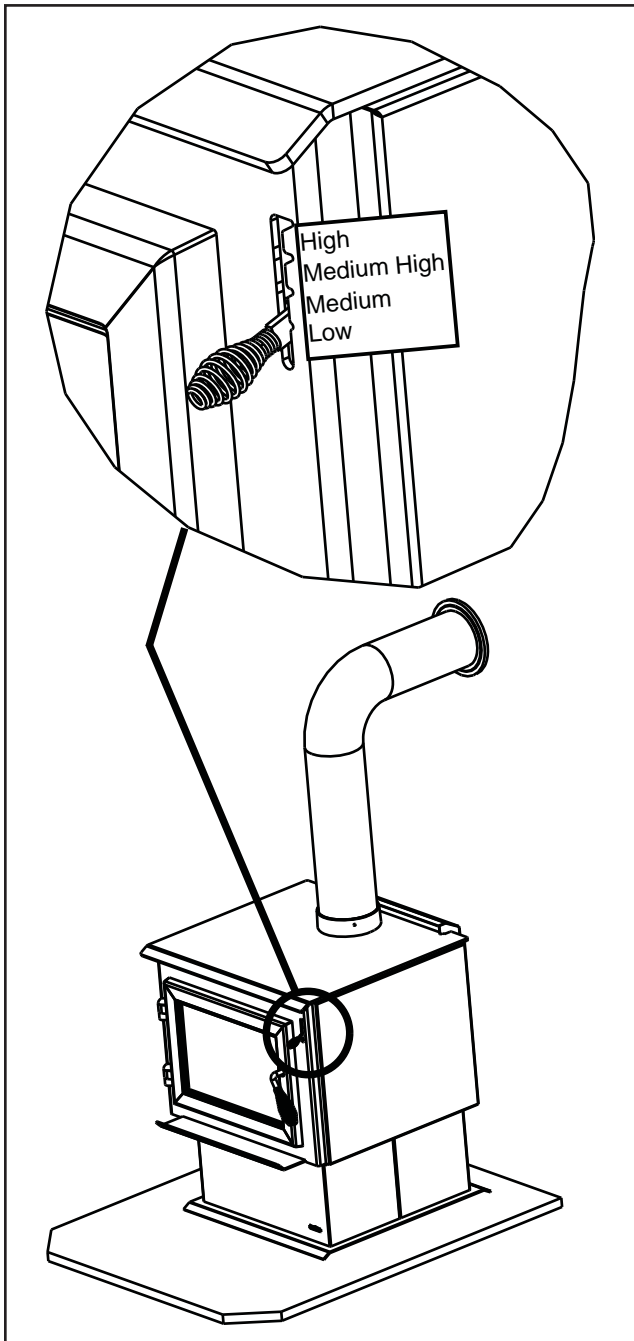

Figure 10.1 - Burn Rate Air Control
The air control located at the upper right hand corner is used to adjust for burn rates. This is called the Burn Rate Air Control. **Figure 10.1 on page 10.**
- It is best to open the Burn Rate Air Control **before reloading**. This livens up the coalbed and reduces excessive emissions (opacity/smoke). **Figure 10.1 on page 10.**
- When the control is raised all the way up it is on the High setting and when pushed all the way down it is on the Low setting. **Figure 10.1.**
1. Follow the instructions below for each burn rate for the Burn Rate Air Control. **Figure 10.1.**